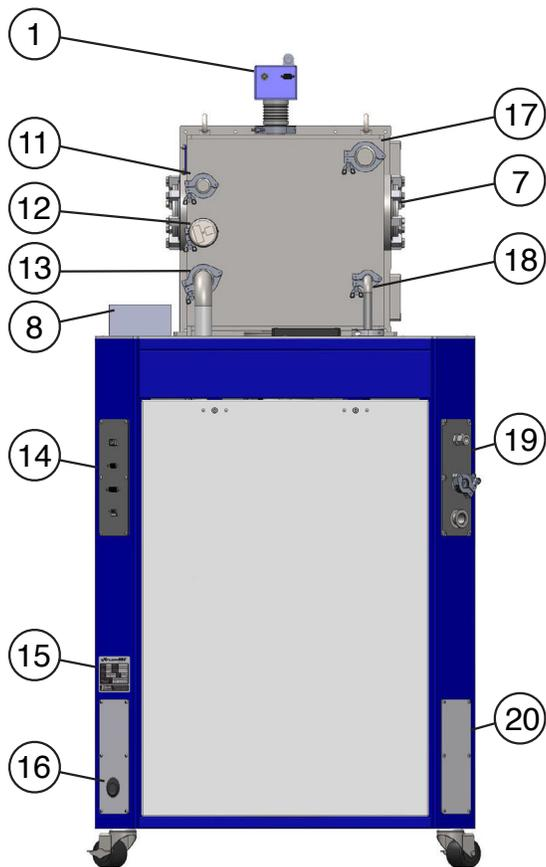

Figure 5 - Rear components
The ExploraVAC system requires 208-240 VAC, 50-60 Hz, three conductor, single phase power and requires a 30 Amp dedicated circuit. The nameplate above the main power input specifies the system's voltage and current requirements (Fig. 5, item 15, p. 12). The instrument is prewired with a 15 ft. power cable, exiting the stand from the back right, and terminated with an L6-30 power plug.